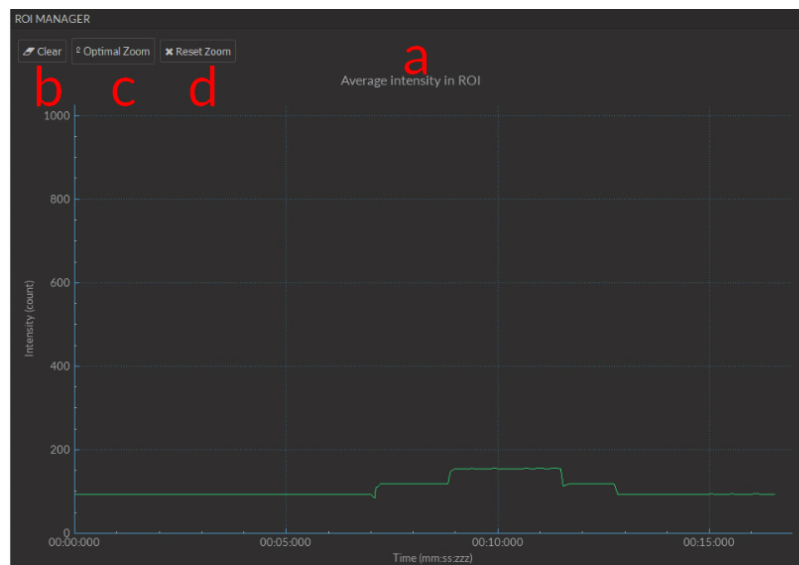

Figure 3.57: ROI Manager
- a) The **Average Intensity in ROI** plot (Fig. 3.57) displays the average intensity over time inside a drawn ROI. *CTRL + mouse wheel* will adjust the x-axis zoom, while *SHIFT + mouse wheel* will adjust the y-axis zoom.
- b) The **Clear** button (Fig. 3.57) will clear any data displayed in the ROI manager and the ROI on the **Image Viewer**.
- c) The **Optimal Zoom** button (Fig. 3.57) sets the zoom factor on the plot to best display all data.
- d) The **Reset Zoom** button (Fig. 3.57) resets the zoom to its default setting.